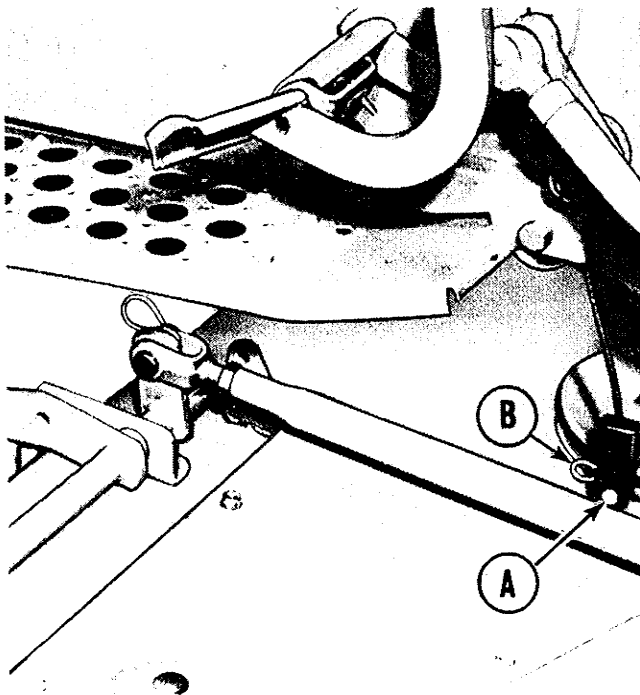

Figure 5. Mower positioned under tractor and attached to center lift cables.
5. See figure 5. Attach the two center lift cables to the mower eyebolts using the pins (A) and spring clips (B) provided with the mower. If the cables do not reach the mower deck, start the engine and move the hydraulic control lever forward to lower the cables completely.
5. See figure 5. Lower the mower and remove the spring clips and pins from the center lift cables. Store the pins and spring clips in the mower eyebolts.